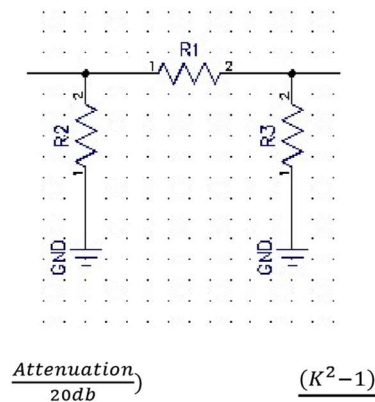

Figure 3. Power Divider PAD: PI Attenuator.
2. Note that the power input of the PA is 1mw RMS and 5mw PEP. Higher input power levels can be accommodated by adjusting R1, R2, and R3 on the input power PAD. Use an appropriate Pi-type Pad calculator to determine R1, R2, and R2 for higher powers as shown in Figure 3.